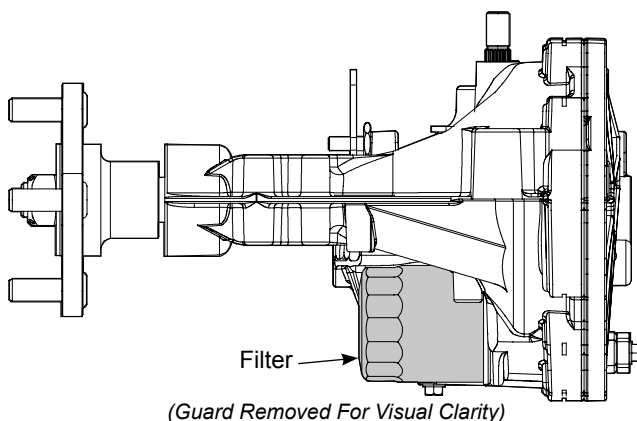

Figure 5, Filter Location
Certain situations may require additional fluid to be added or even replaced. Refer to page 10 and figure 5 for the proper fill port location.
8. Remove the top port plug (figure 5) from the left side and right side transaxles prior to filling with oil. This will allow the transaxles to vent during oil fill.